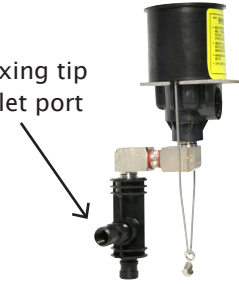

Figure 5
2. Select proper mix tip for soap and screw into chemical inlet port on Hydrominder eductor. (Fig. 5)